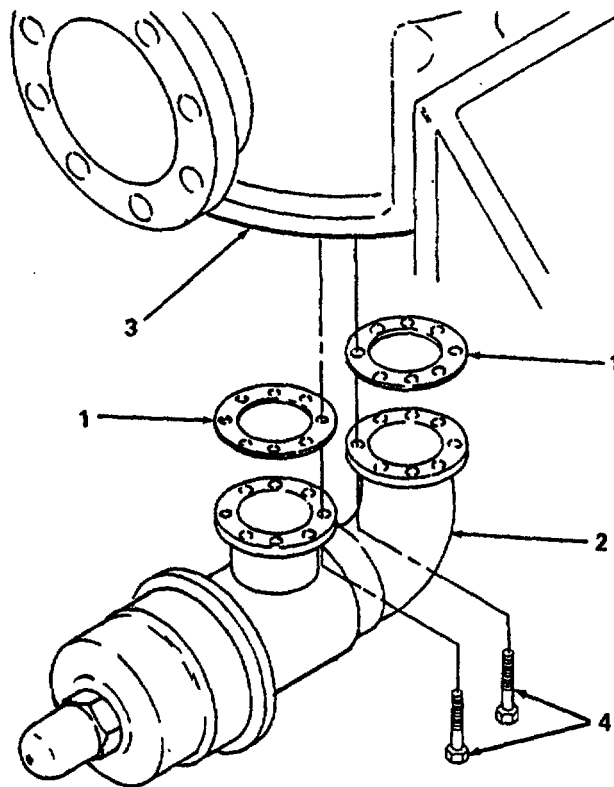

Figure 5-22. Pressure Gage Relief Valve Installation.
- (a) Position gaskets (1, figure 5-22) on flanges of relief valve (2).